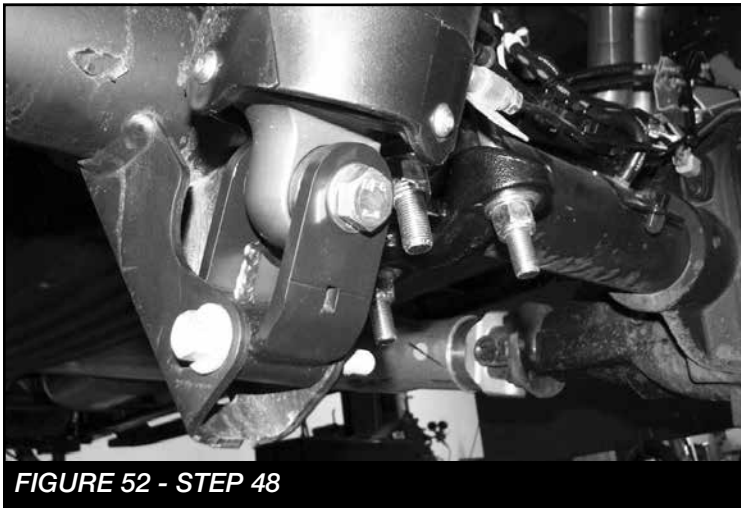

**FIGURE 50 - STEP 46**
47. Locate and install FT20349 (Rear brake bracket) using the factory and supplied 5/16" hardware to the top of the rear pumpkin like shown in **FIGURE 50**